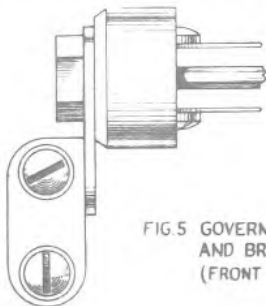

FIG 5 GOVERNOR CUP
- .1 The governor wings should be free from kinks or bows and, as an initial adjustment they should be set slightly inwards by means of Tool Switchboard 74. The governor cup fixing holes are elongated, to enable the cup to be positioned to give the best running position for the governor, i.e. the cup should be square with the governor when observed from the angles shown in Figs 5 and 6.